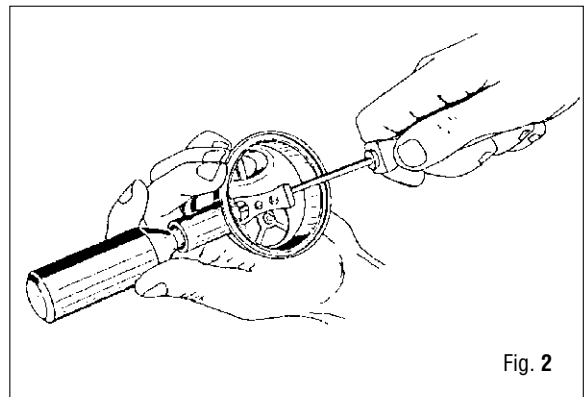

Fig. 2
6. Correctly position the demand lever in the groove of the second stage case (32), place the washer (34) on the poppet stem and screw on the new demand lever lock nut (33) by a few turns, using the special wrench (B-12). (Fig. 2)